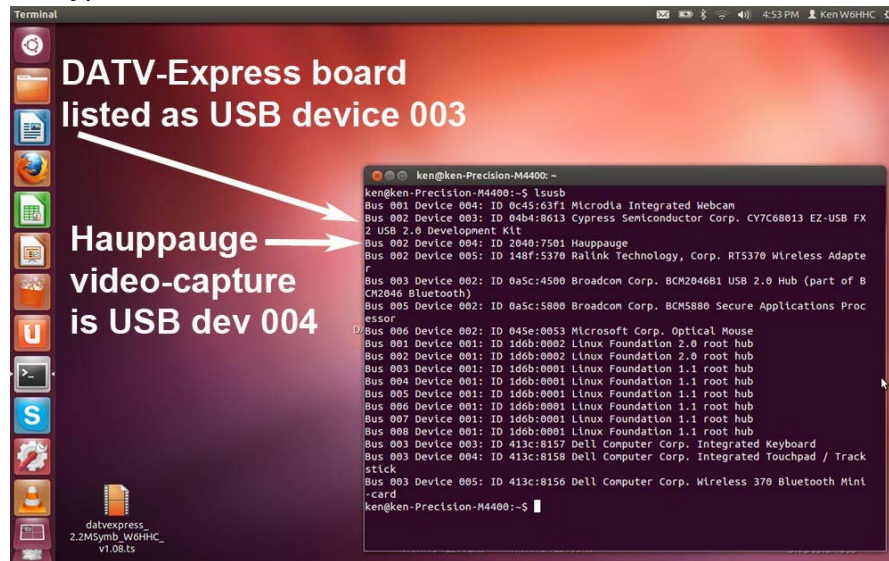

Figure 15 – Terminal mode window showing typical “lsusb” listing that contains both hardware board and Hauppauge video-capture
- **Figure 15** shows a typical successful list of USB devices.